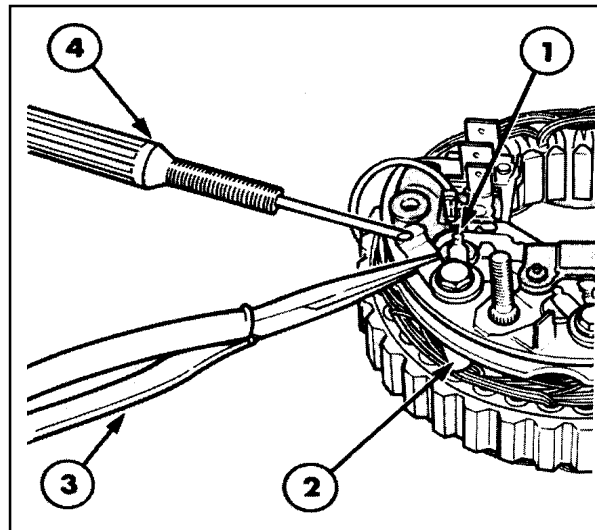

Figure 20
8. Unsolder the stator leads from the tags on the rectifier, using a pair of pliers as a heat sink to prevent the diodes from becoming overheated. Figure 20.